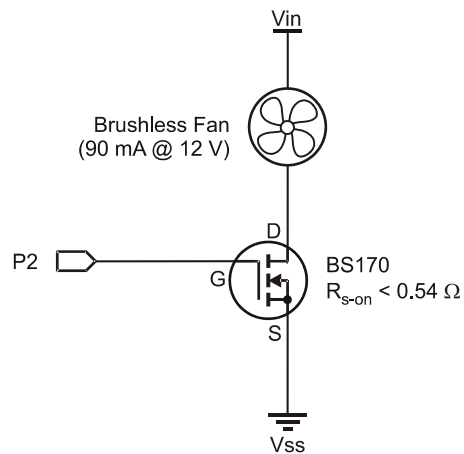

Figure 5-5
Next, consider the power Metal-Oxide Semiconductor Field Effect Transistor (MOSFET) drive circuit in Figure 5-5. The MOSFET is driven into saturation by applying gate voltage. A positive 5 volts from the BASIC Stamp output is sufficient to place the MOSFET in an “ON” state. When the device is fully saturated, its ON-state resistance
- ✓ Replace the 2N3904 transistor that is connected to the fan with the BS170 MOSFET transistor to form the circuit shown in Figure 5-5. Be very careful to observe the proper pin placement.